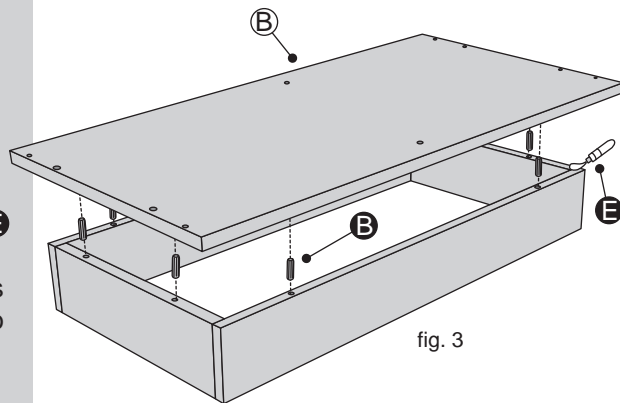

fig. 3
3. Place a small amount of Glue **E** into the dowel holes and onto the joints surfaces. Use Dowels **B** to fix the Table Bottom **B** onto the unit. See fig. 3.